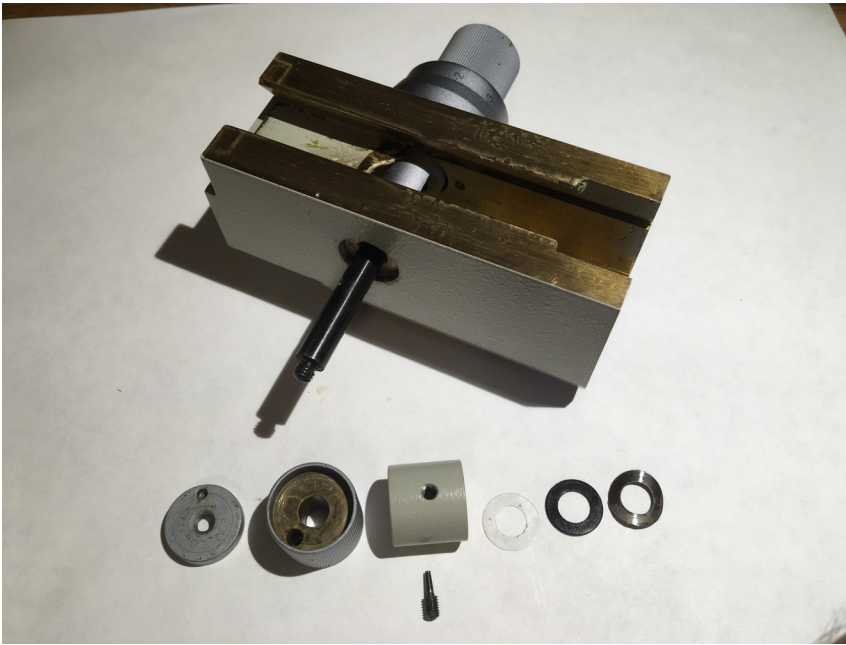

Figure 11 – the ball bearing and coiled spring that fit between disk and knob are not pictured here
- * Note the correct placement of all washers. The sequence in Figure 11 may not be correct. I forget!